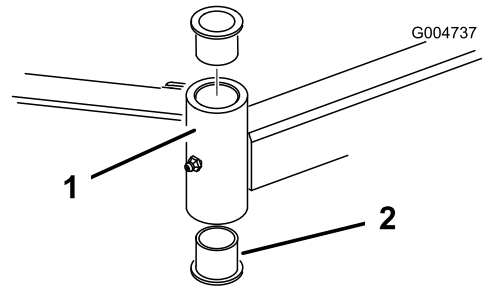

Figure 28
4. Insert a pin punch into the top or bottom of the mounting tube and drive the bushing out of the tube (Figure 28). Also, drive the other bushing out of the tube. Clean the inside of the tubes to remove dirt.